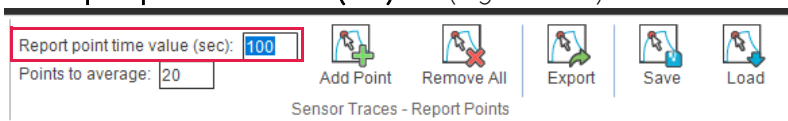

Figure 4-80: Entering a Report Point Time Value
1. In the Full Traces - Report Points menu at the top of the Preprocess Data screen, enter a time (in seconds) in the **Report point time value (sec)** box (Figure 4-80).